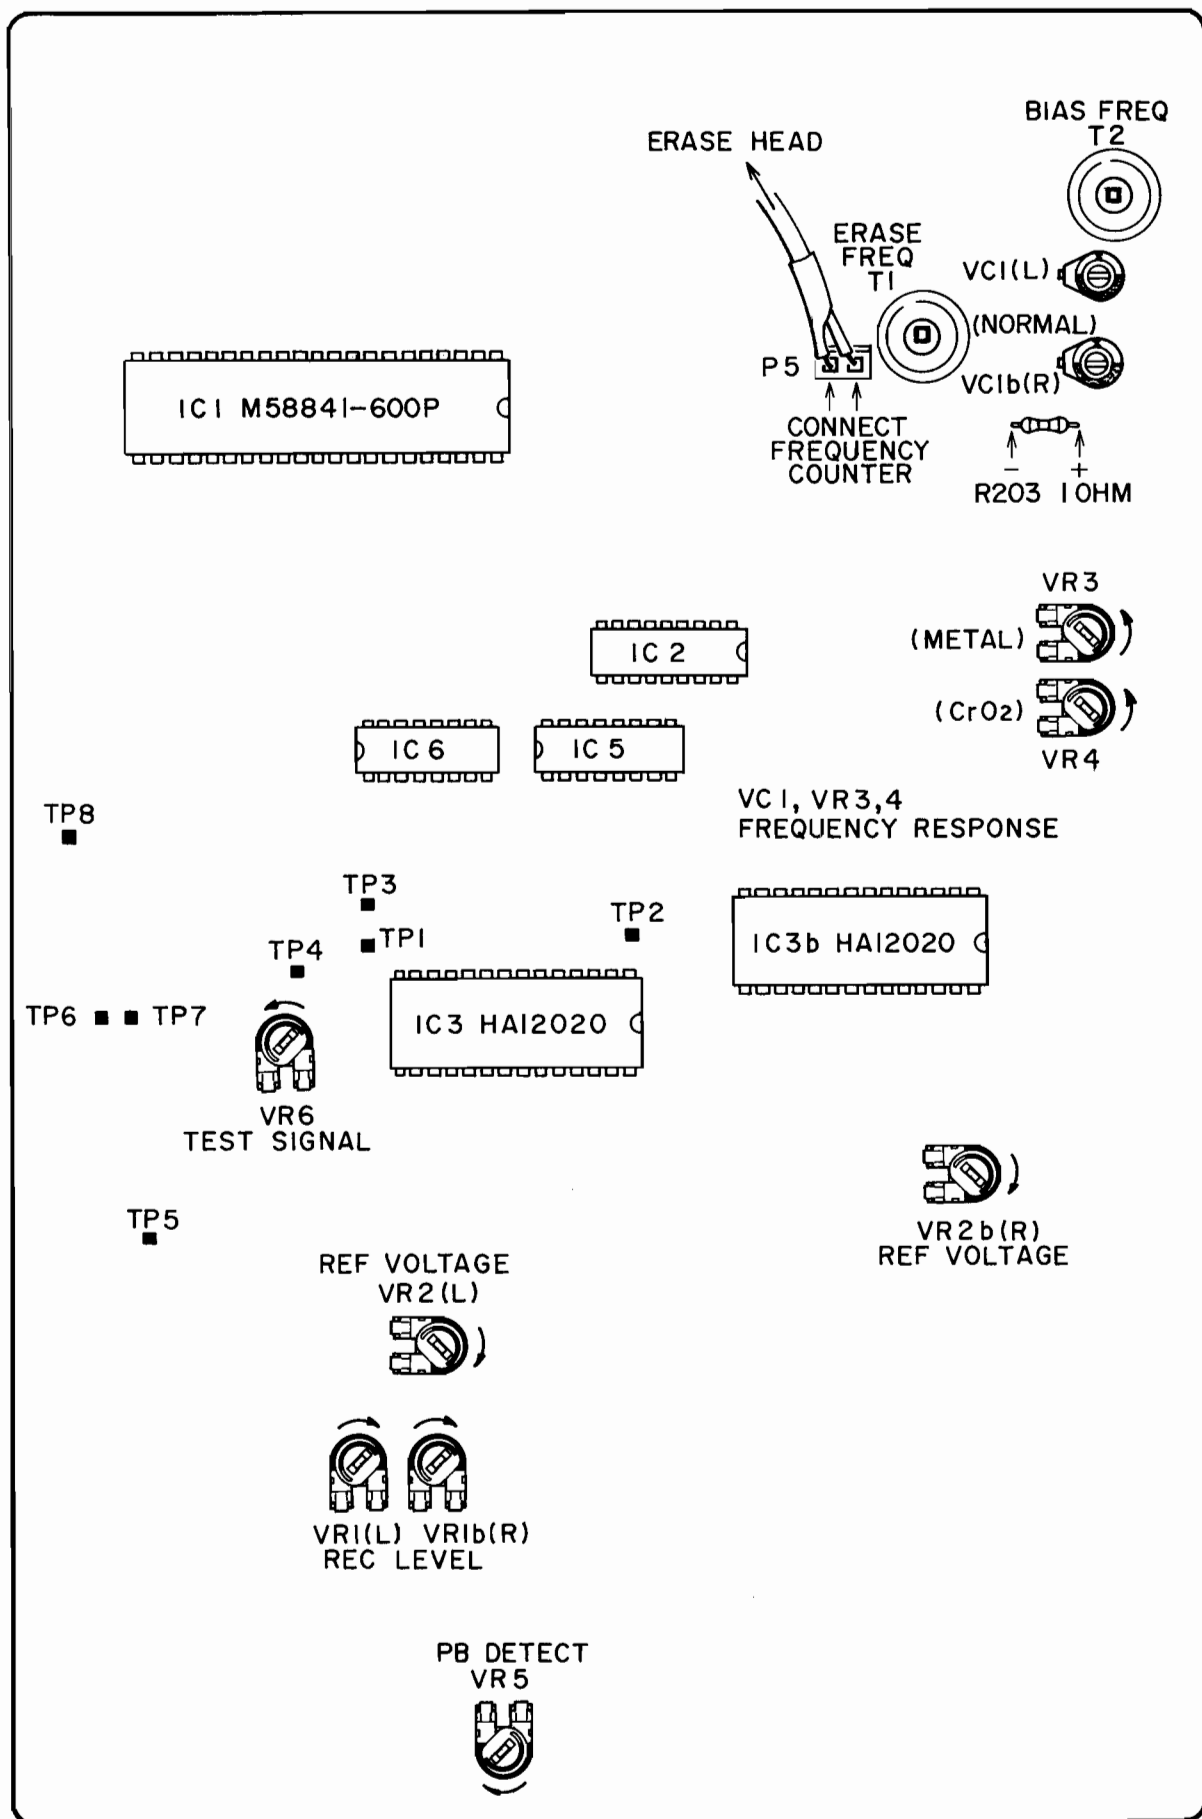

Fig. 12 Tuning P.C Board
5. IC3 (HA12020) REFERENCE VOLTAGE**ADJUSTMENT (Fig. 12)**
- Adjust VR2 (L) so that the voltage to GND of TP1 will be 1.10 ± 0.03 V DC.
- Adjust VR2b (R) so that the voltage to GND of TP2 will be 4.00 ± 0.05 V DC (before SERIAL NUMBER 70401-00101), 5.10 ± 0.05 V DC (after SERIAL NUMBER 70401-00101).
6. REC BIAS OSC ADJUSTMENT (Fig. 12)
- Set VC1 as shown in Fig. 12.
7. FREQUENCY RESPONSE**ADJUSTMENT (Fig. 12)**
8. RECORDING LEVEL ADJUSTMENT**(Fig. 12)**
9. TEST SIGNAL ADJUSTMENT (Fig. 12)